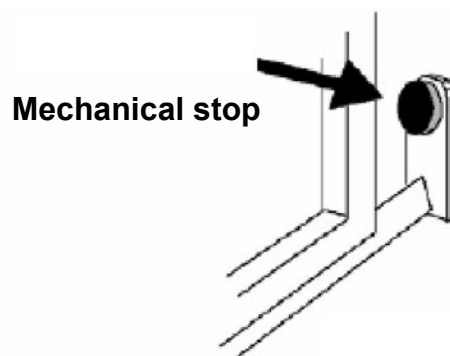
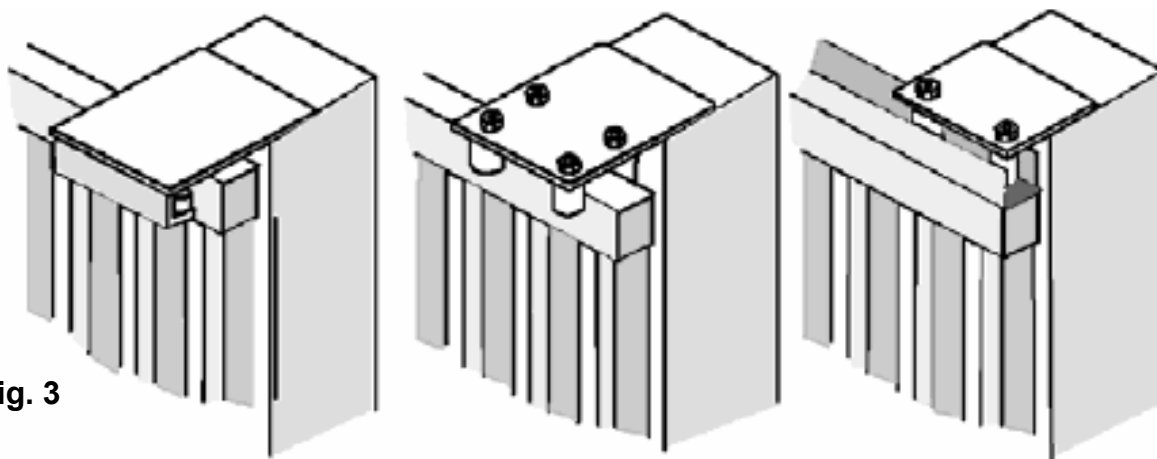

Fig. 2
Fig. 3
- Also check that the runner on the ground (**Fig. 1**) is not deformed, is perfectly level and that the mechanical stop is present on opening (**Fig. 2**) in order to **prevent** the gate from going beyond the upper runners (**Fig. 3**)
- Check the upper runner (**see Fig. 3**) is firm and the gate slides freely.
Fasten the rack to the gate firmly, leaving a distance of between 2 and 3 mm from the motor pinion (**Fig.2**).
Fasten the limit stop plates (Cams **G**) of the motor on the rack, (**Fig. 3**)